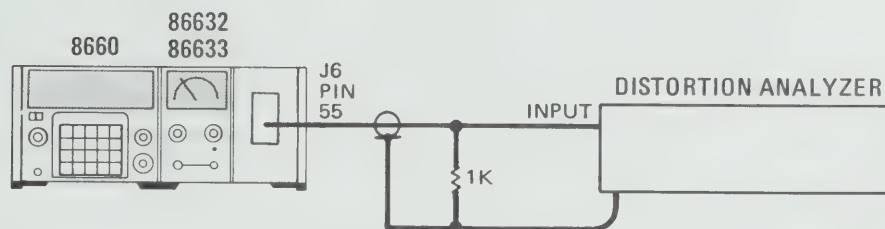

Figure G-1. AM Measurements
- G-1. Attach spectrum analyzer to RF output. Set AM 30% 1000 Hz. The first sidebands should be 16.4 dB below the carrier. AM accuracy must be correct before checking distortion. If OK, skip to step G-4 to check distortion. If not OK, remove the RF section and substitute an 11707 Test Plug-in (if an 117707 is not available the voltage to be tested is at mainframe J6 coax pin 55. See Figure G-1 for setup).
- G-5. If the AM Distortion is out of specifications, remove the RF Section and substitute an 11707 Test Plug-in. (If an 11707 is not available connect to mainframe J6 pin 55 as shown in Figure G-1.)